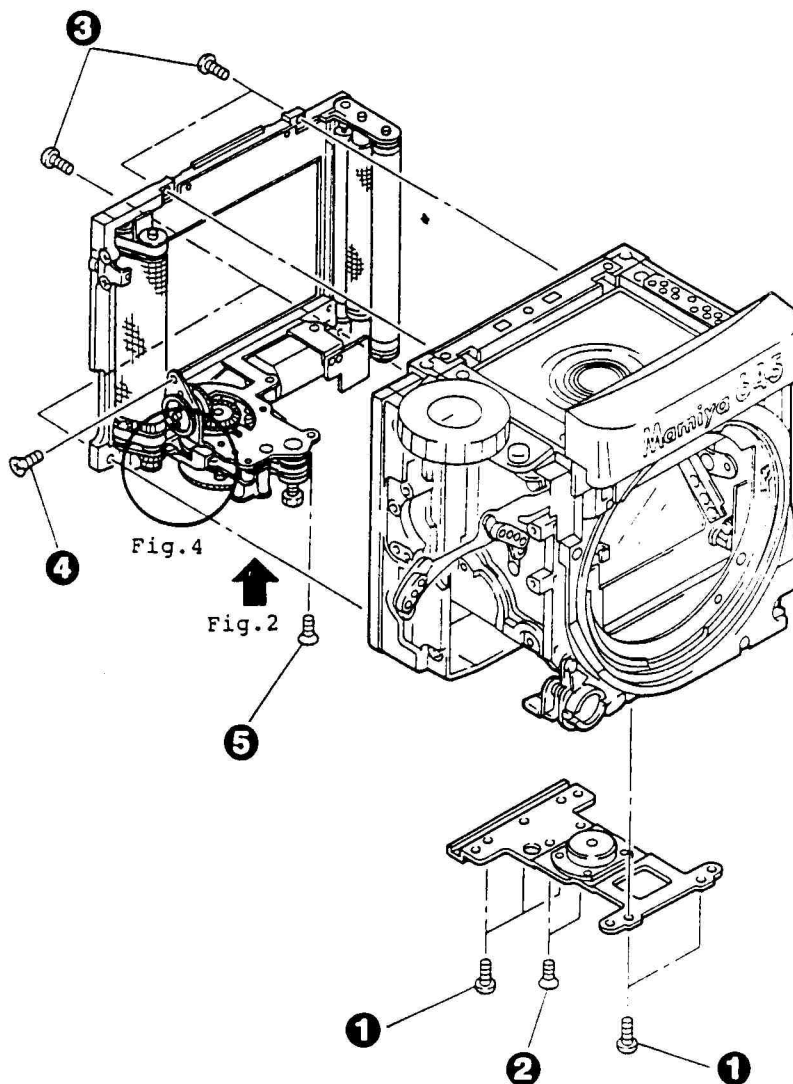

Fig. 1
1. Disassemble in the order of numerical figures shown in small circles. (See Fig. 1.)
Note: Let the F3 gear substrate (A) escape in the arrow direction, and remove the wind-up substrate unit (G). (See Fig. 1.)
2. Disassemble in the order of numerical figures shown in small circles. (See Fig. 1.)
3. Remove two places of contact (D) from the battery case. (See Fig. 1.)